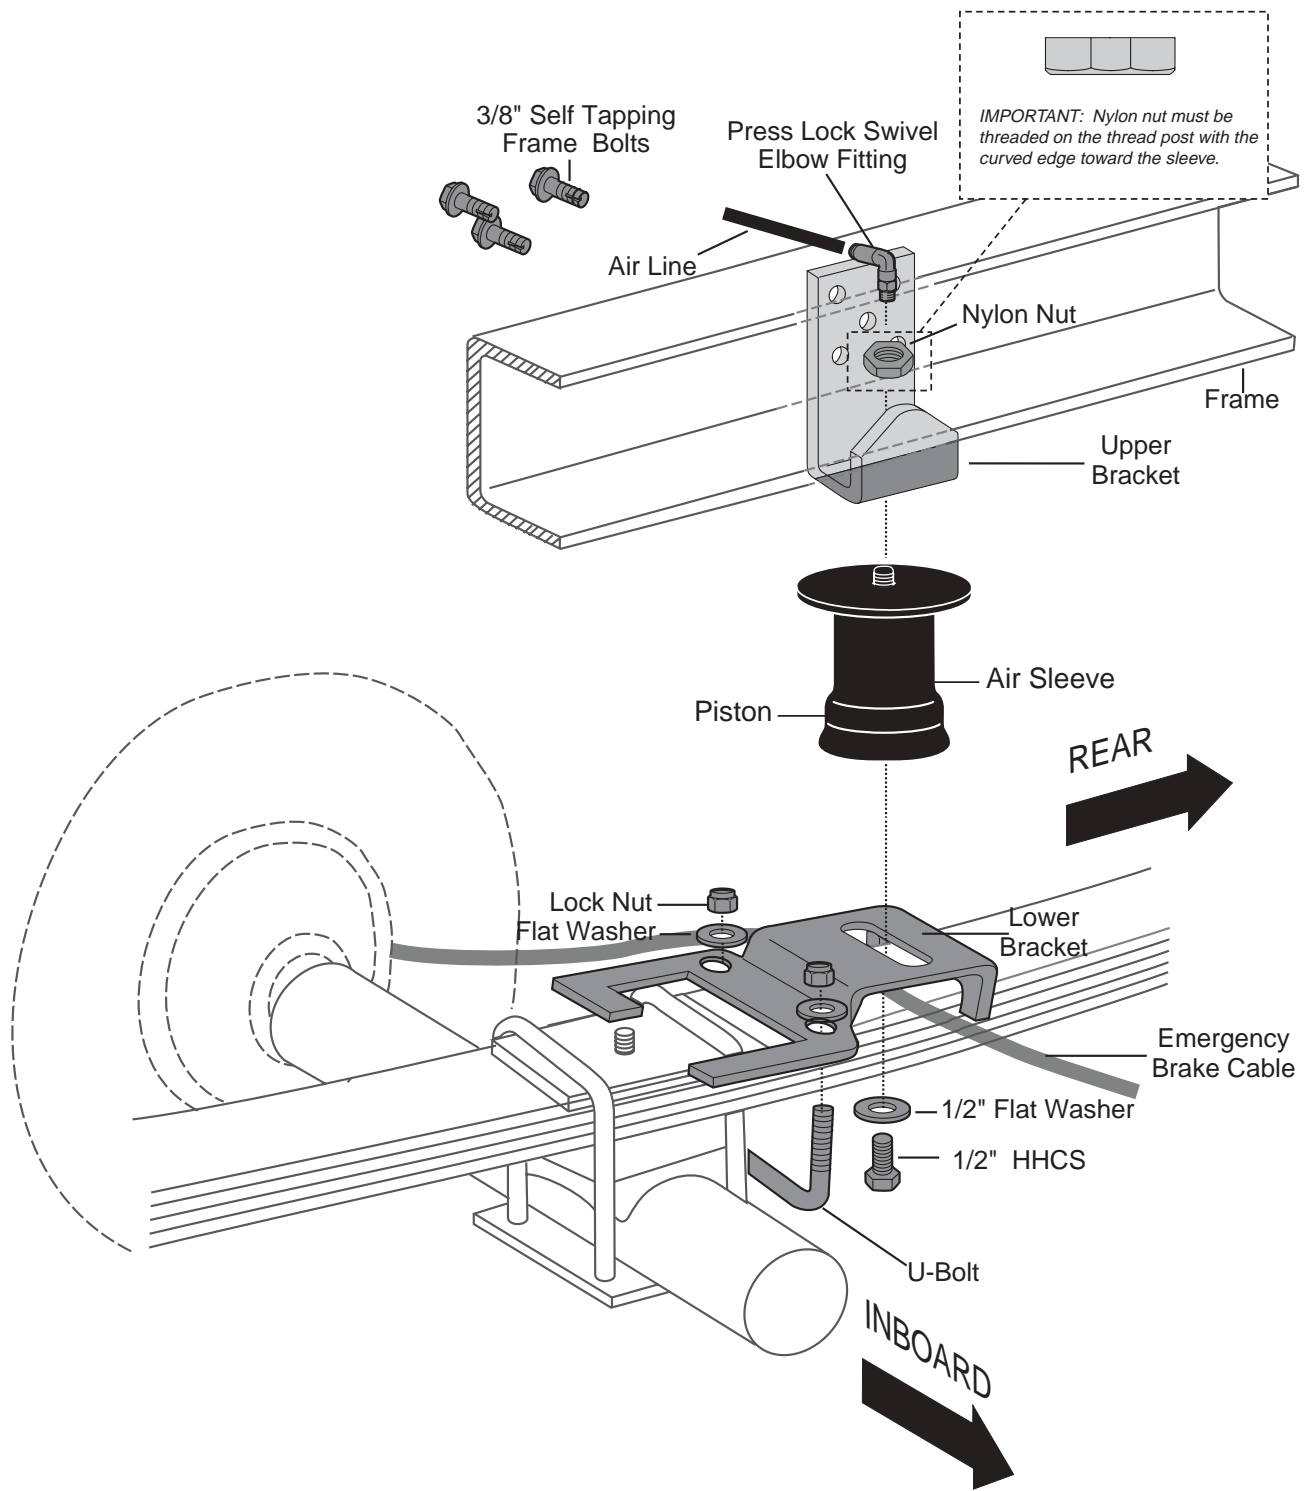
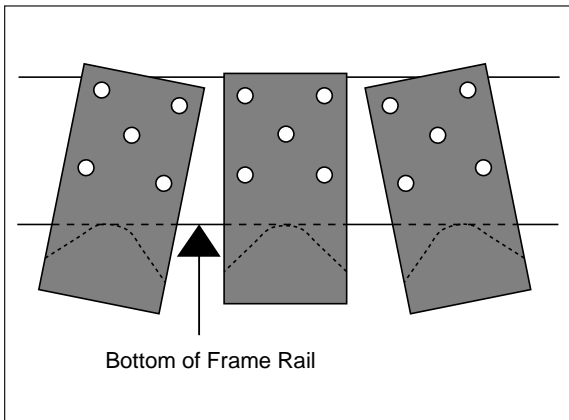

Figure 1
Figure 4
2. Thread the attached air fitting through the bottom of the J-bracket. Position the elbow towards the front of the vehicle for proper air line routing (Figure 1). Slide the provided nylon nut over the air fitting and onto the threaded post. Tighten the nylon nut hand tight to secure the bracket (Figure 4).
NOTE: The nylon nut must be threaded on the thread post with the curved edge facing toward the sleeve (Figure 1).
3. **LOOSELY** attach the lower bracket to the bottom of the sleeve using a 1/2" bolt and 1/2" flat washer (Figure 1). Set the assembly on the leaf spring.
NOTE: The lower bracket will go **OVER** the U-bolts. Secure to the leaf springs using the provided U-bolts, flat washers and nylon lock nuts (Figure 1). Tighten to 20 ft.lbs.
- Using the bracket as a template, center punch and drill three 5/16" holes. *The holes must be no larger than 5/16"*. Attach the upper bracket using the Self-Tapping Frame Bolts and tighten to 15 ft.lbs. (Figure 1). **DO NOT OVERTIGHTEN.**
If the vehicle's headlights are shining into the trees or the vehicle is leaning to one side, then it is not level (fig. 1). Raise the air pressure to correct either of these problems and level the vehicle.